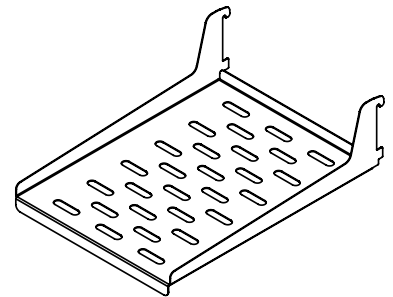

Figure 29
- (1) half width metal cantilever shelf (See Figure 29).